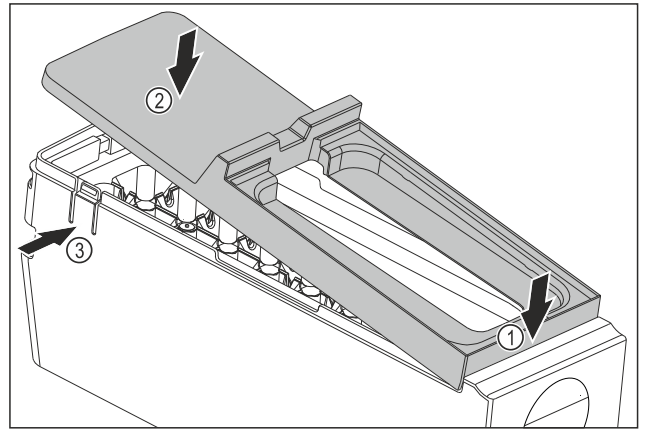

Fig. 109
- ▶ Installing the EasyTwist-Ice body cover: Place the cover on the front. Fig. 109 (1)
- ▶ Lower the cover at the rear. Fig. 109 (2)
- ▷ The cover locks into both tabs Fig. 109 (3) audibly.